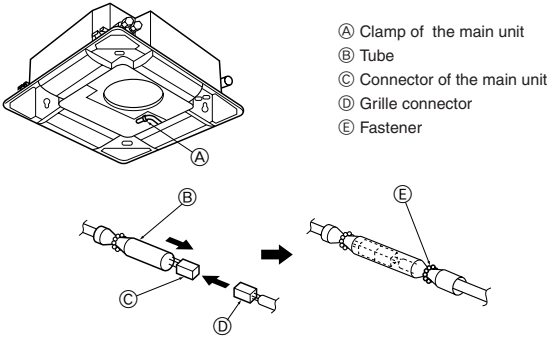

Fig. 5-8
5.4.4. Wire connection (Fig. 5-8)